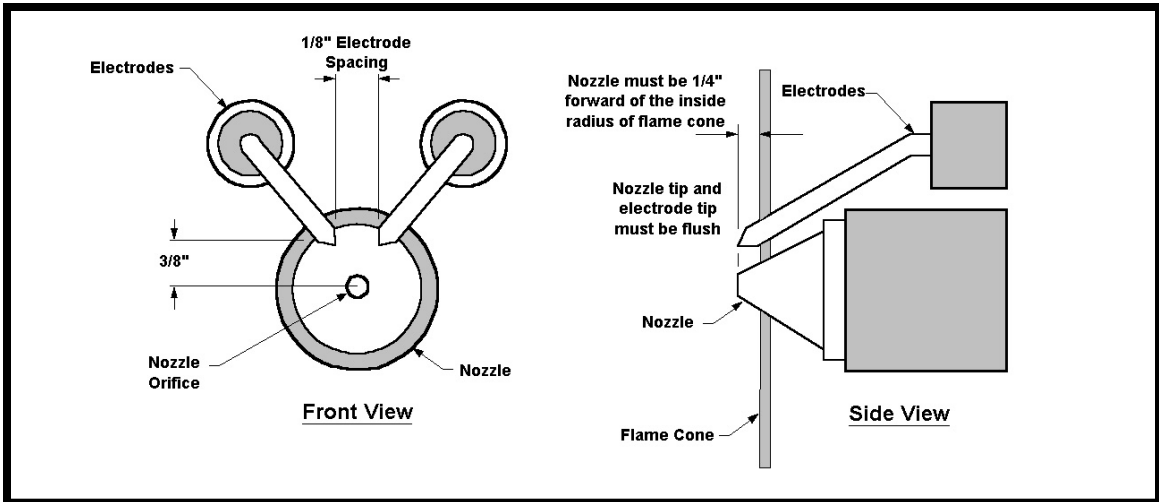

Figure 37 –Electrode Adjustment Diagram
3. **Yearly** Inspect and adjust electrodes per (figure 37). **CAUTION: turn off main electrical power before checking or adjusting electrode settings.** Inspect and check alignment of nozzle in relation to flame cone/burner tube (figure 37). Tip of nozzle must be 1/4" forward of inside radius of flame cone. If nozzle is behind inside radius of flame cone, coking will occur and flame cone can clog. To adjust, loosen Pre-Heater block securing nut and set screw, push fore or aft as needed then retighten securing nut and set screw.